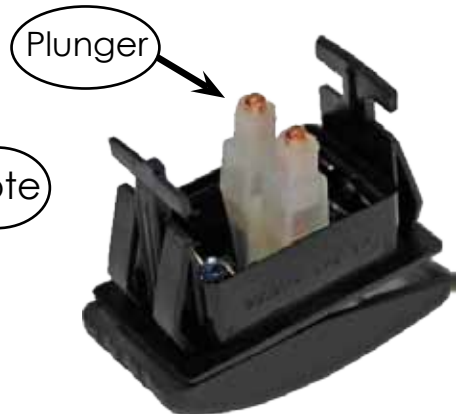

Figure 3
5. Take the top portion of the switch and set it on the bottom portion. Shown in Figure 3.
6. Note: The "In" position is lined up with the (Tab) on the one side of the switch so you know how to attach it back together correctly. Shown in Figure 3.
7. There is a clip on each side of the rocker switch. Push the top portion of the switch down and snap the clips into place. Shown in Figure 3.